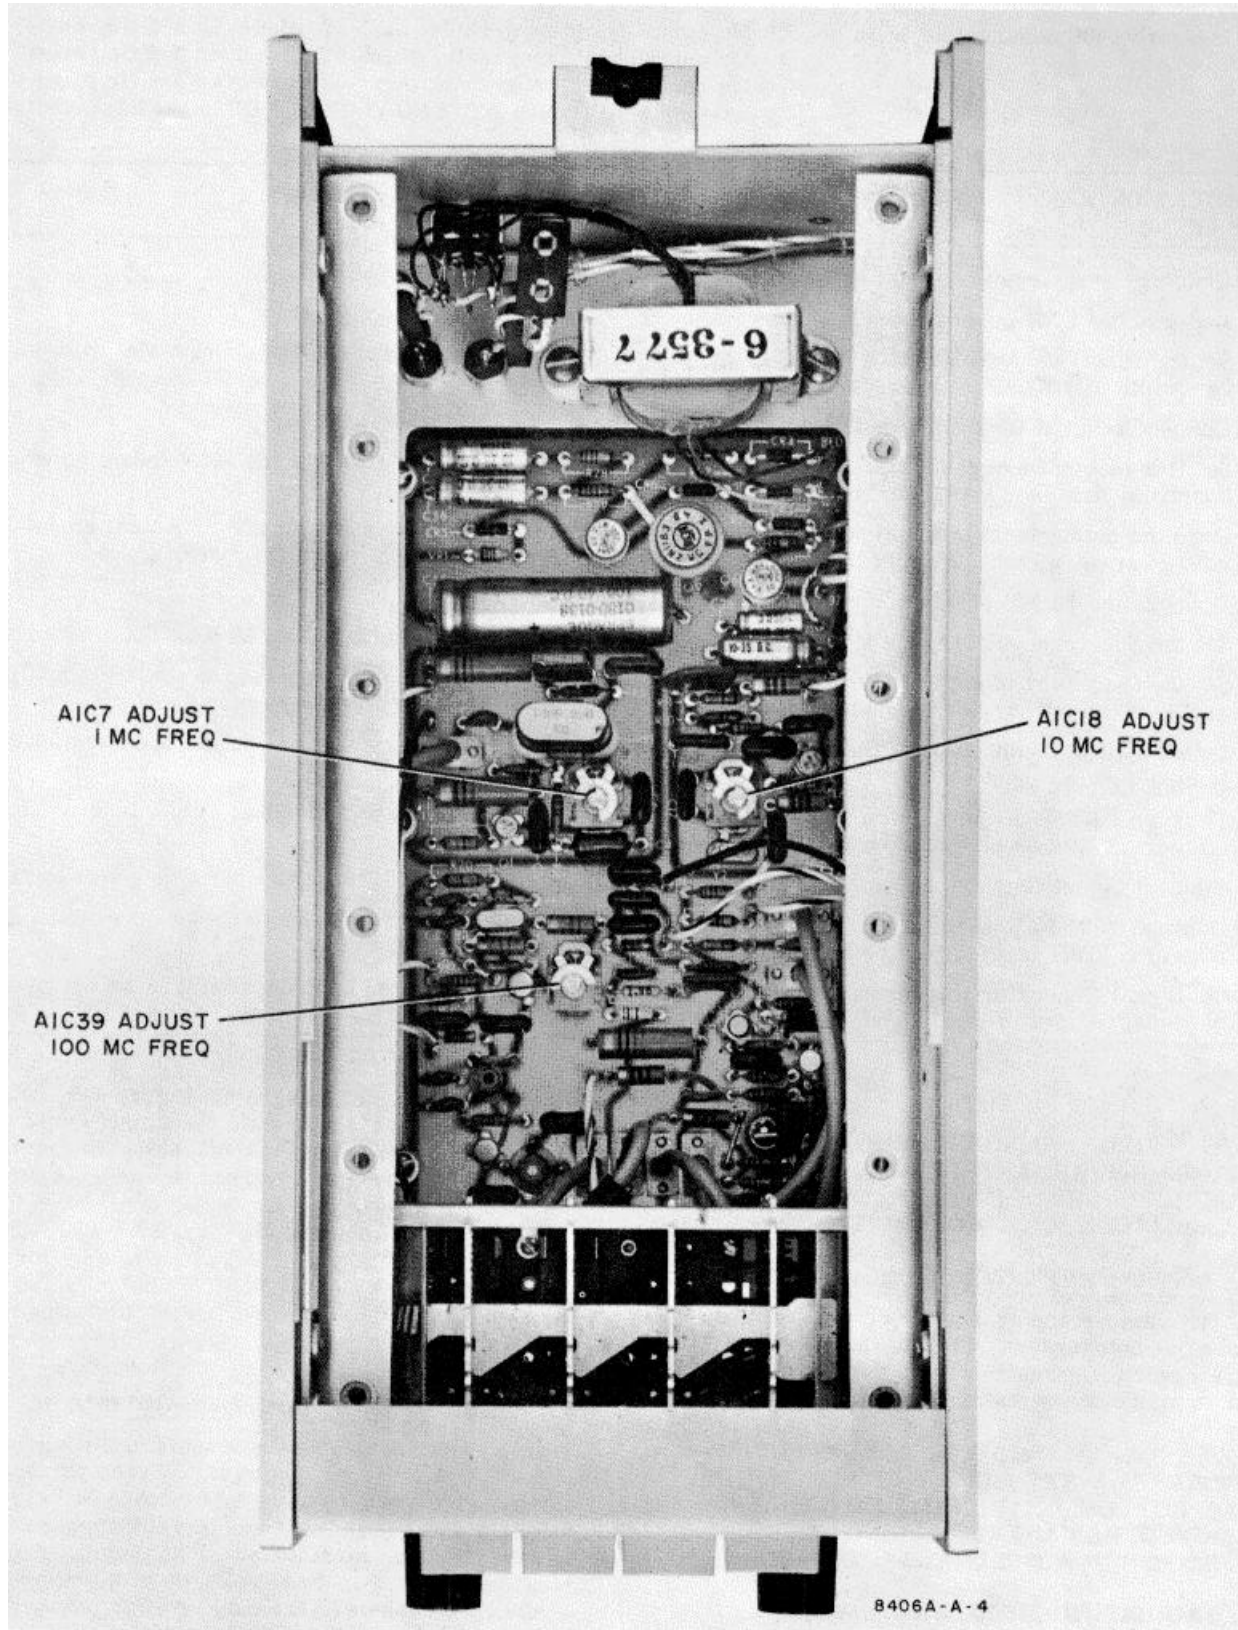

Figure 5-2. Location Diagram
- d. Connect a dc and an ac voltmeter to the -14 volt supply. This is a violet wire on top of the printed circuit, third terminal from the rear (see Figure 5-2 for location).
a. Set Spectrum Analyzer to a center frequency of 1 Gc with spectrum width of 2 Gc. The frequency comb should be smooth in output. If not, tune A1T1 (see location diagram, Figure 5-2) with a Walsco 2547 tuning wand for a stable frequency and A1T2 for maximum flat output in the 400-Mc region as the OUTPUT AMPLITUDE control is varied from maximum to minimum.
b. Connect counter and tune A1C39 (see location diagram, Figure 5-2) for 100-Mc frequency.